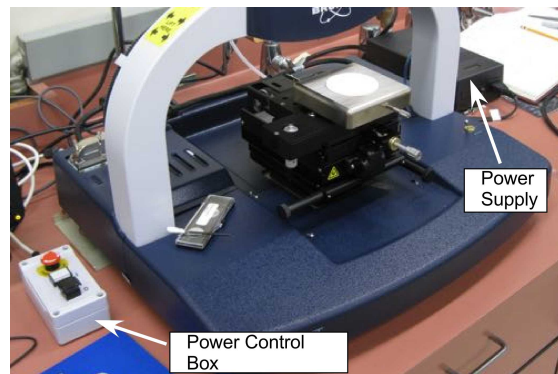

Figure 1. DektakXT with cover removed
1. Turn on power supply (Black box on right of instrument, see Figure 1).
2. Press (I) button on white power control box (on left of instrument).